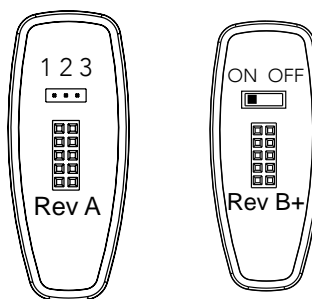

Figure 66. Bluetooth Switch
3. Move the jumper or switch to the ON position. (Left two pins on three pin version or to the left on slide switch, Figure 66)